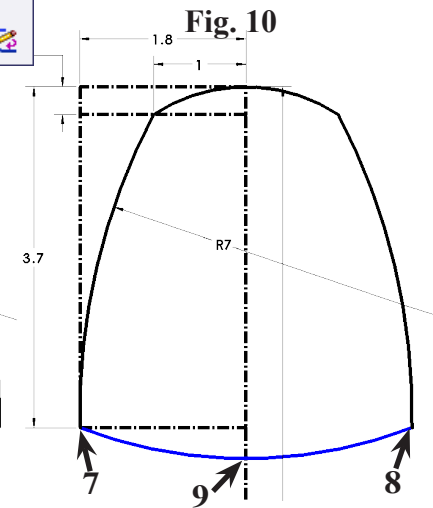

Fig. 12
Step 6. Draw an arc between the Position 7, Position 8 and Position 9 in **Fig. 12**.
Step 7. Click **Smart Dimension**  (S) on the Sketch toolbar.